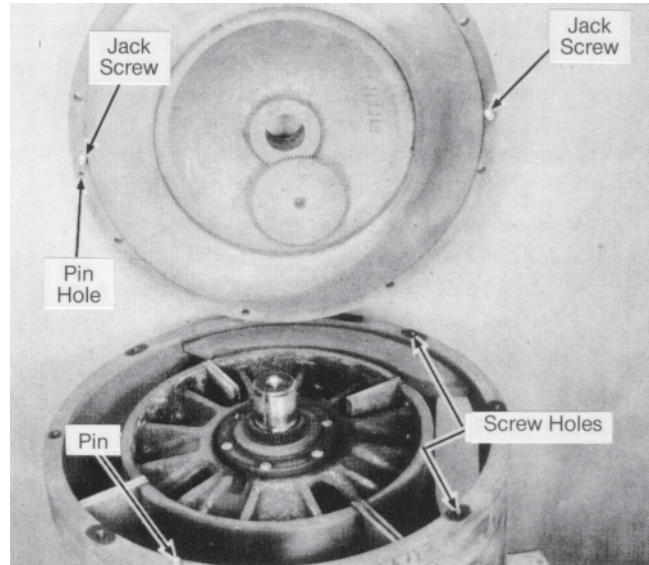

Figure 22 –Cover Removed
- When reassembling, align locating pin and cover hole, Figure 22. Tighten cover screws evenly.